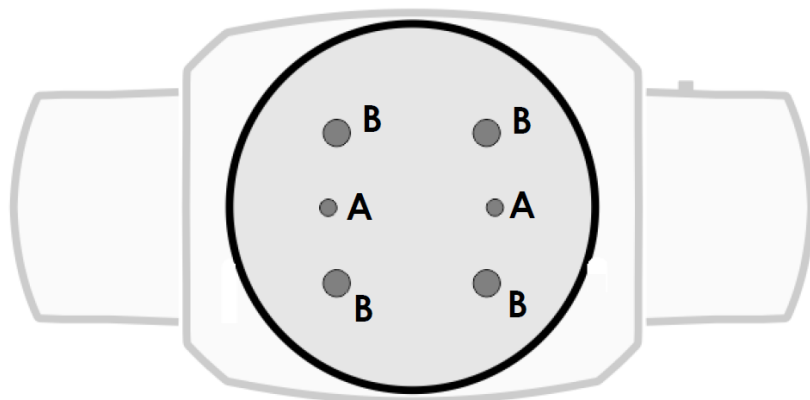

Figure 6. Base mounting points
2. See Figure 6. Bolt a rigging clamp securely to each of the two rigging (omega) brackets that are supplied with the fixture using high-tensile steel screws or bolts and self-locking nuts with washers passed through the central holes in the rigging brackets.